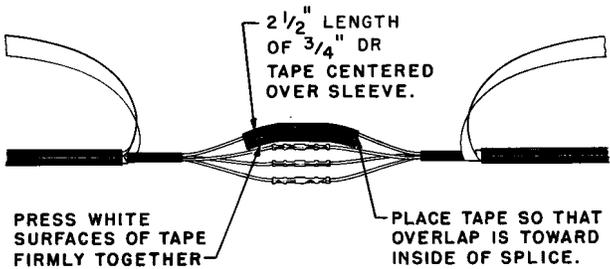

Fig. 10 – Insulating Conductors
4.04 Spread the joined conductors, as shown, to provide adequate clearance for applying the insulation. Over each pressed sleeve fold a 2-1/2 inch length of 3/4-inch DR Tape, as shown in Fig. 10.